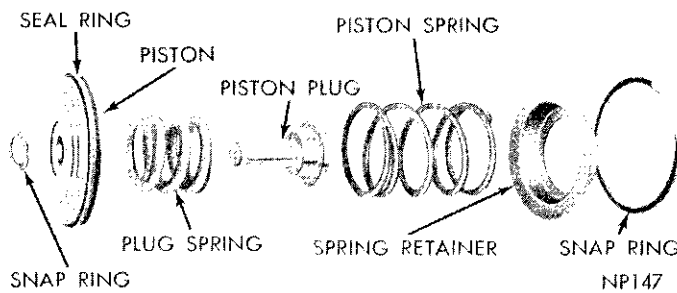
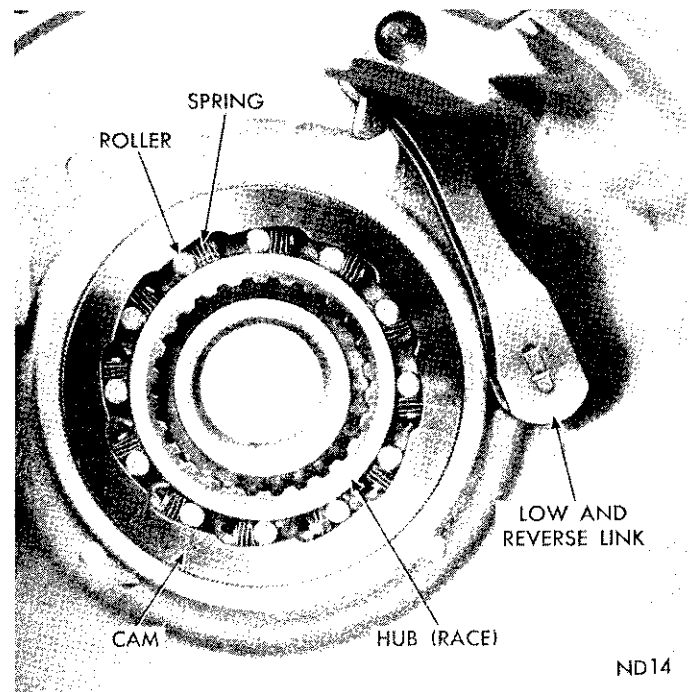
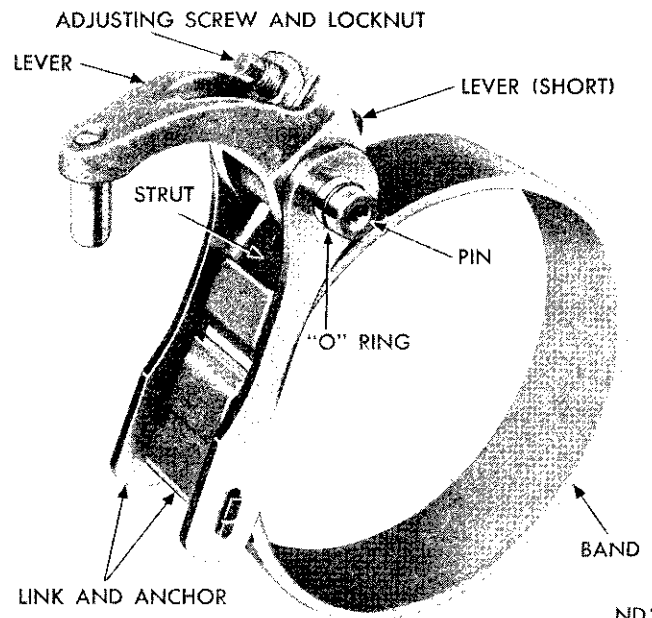

Fig. 71—Low and Reverse Servo
Fig. 72—Overrunning Clutch, Low and Reverse Band Link
Fig. 73—Low-Reverse Band and Linkage
(1) Remove snap ring from piston plug and remove plug and spring from the piston (Fig. 71).
(1) With transmission case in an upright position, insert clutch hub inside the cam. Install overrunning clutch rollers and springs exactly as shown in Figure 72.
(1) Carefully work servo piston assembly into the case with a twisting motion. Place spring, retainer and snap ring over the piston (Fig. 71).
(2) Compress low and reverse servo piston spring by using engine valve spring compressor Tool C-3422, then install snap ring.
(3) Position rear band in the case, install short strut, then connect long link and anchor to the band (Fig. 73). Screw in band adjuster just enough to hold strut in place. Be sure long link and anchor assembly is installed, as shown in Figure 72 to provide a running clearance for the low and reverse drum. Install the low-reverse drum.